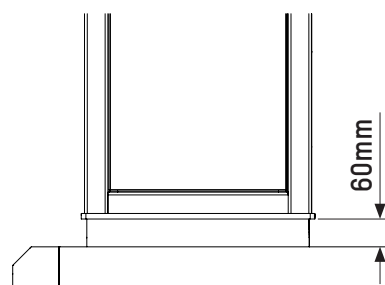
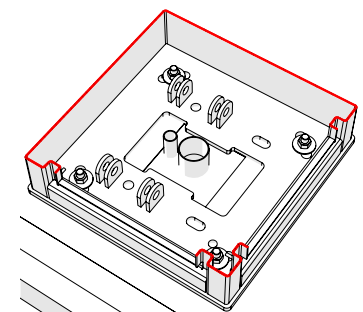

Fig. 9 - Base detail
Fig. 7 - Footing
- When the concrete has set, remove the adhesive tape from the netting, remove the nuts (7b), the flat washers (6b), place the barrier column on the base and hold it in place using washers (6b) and nuts (7b) (Fig. 7). The base is smaller than the column to prevent water stagnating at the base of the column (Fig. 9).